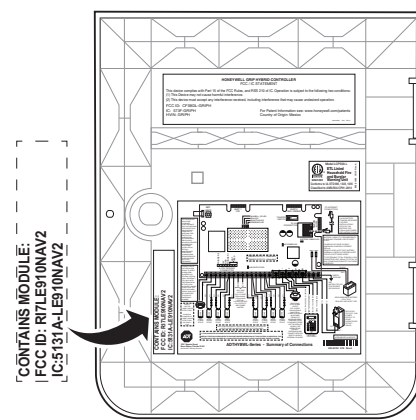

Figure 3. FCC/IC Label Location
1. Affix the provided FCC/IC label (ADTZWM, P/N 800-24286) on the ADTHYBWL cabinet (refer to Figure 3)